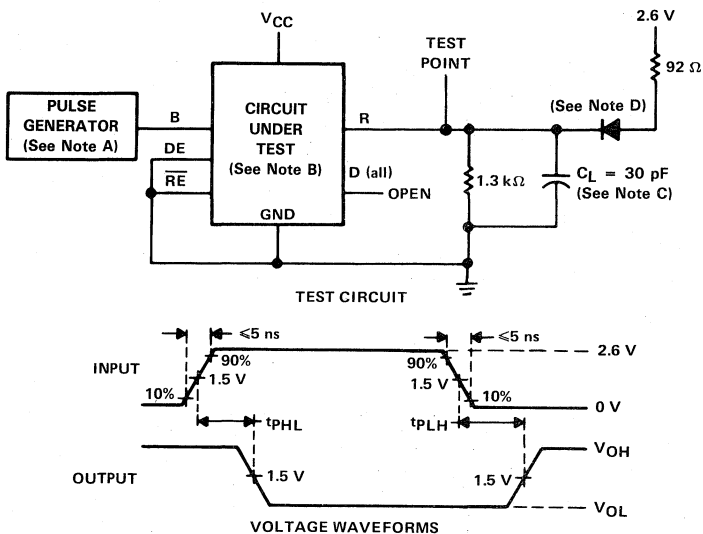

FIGURE 1. PROPAGATION DELAY TIMES FROM BUS TO RECEIVER OUTPUT
- NOTES: A. The pulse generator in Figures 1 and 2 has the following characteristics: $PRR \leq 10\text{ MHz}$, duty cycle = 50%, $Z_0 \approx 50\ \Omega$.